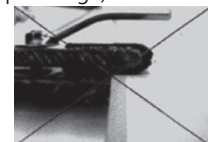

FIGURE 1. Clamping procedure.
9. If using a clamp to pull the fabric on, make sure it doesn't damage the edge of the fabric. Clamp inside the treated edge (Figure 1).